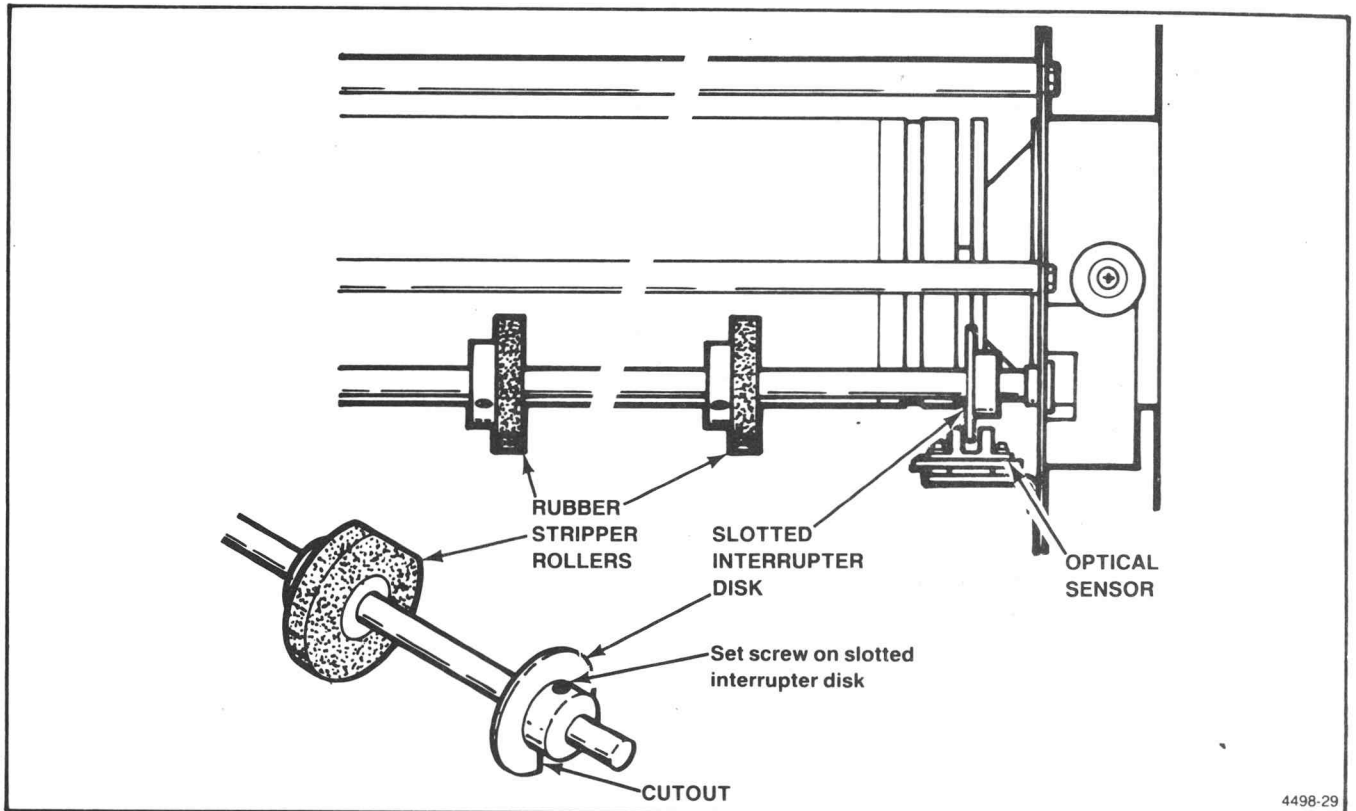

Figure 5-11. Stripper Roller Sensor Adjustment Locations.
2. Loosen the set screw on the slotted interrupter disk (see Figure 5-11).